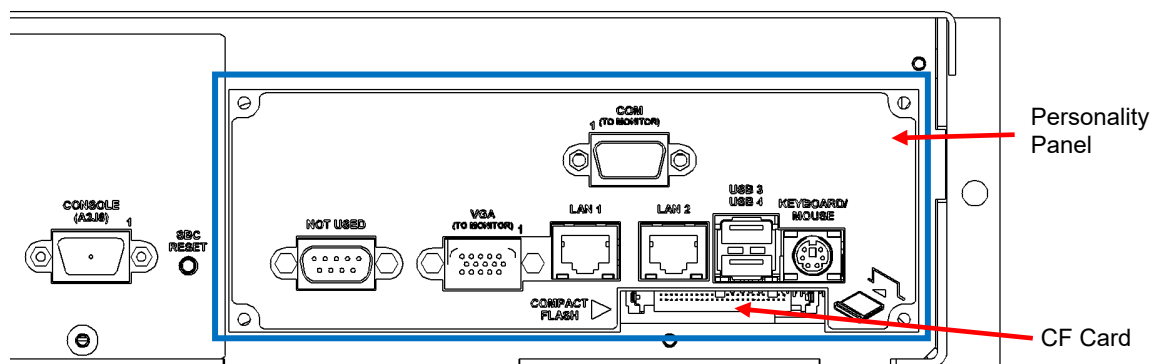

Figure 8: Replacing the Personality Panel (Partial Rear View of Controller)
- (a) From the rear of the controller (see Figure 8), remove the CF card and discard it.
- (b) From the rear of the controller, remove the personality panel (see Figure 8). To do this, use a 5-mm nut driver to remove the hex screws from the D-sub connectors and use a Phillips screwdriver to remove the personality panel, noting it is secured to the controller chassis with four (4) M4 screws. Retain hardware.